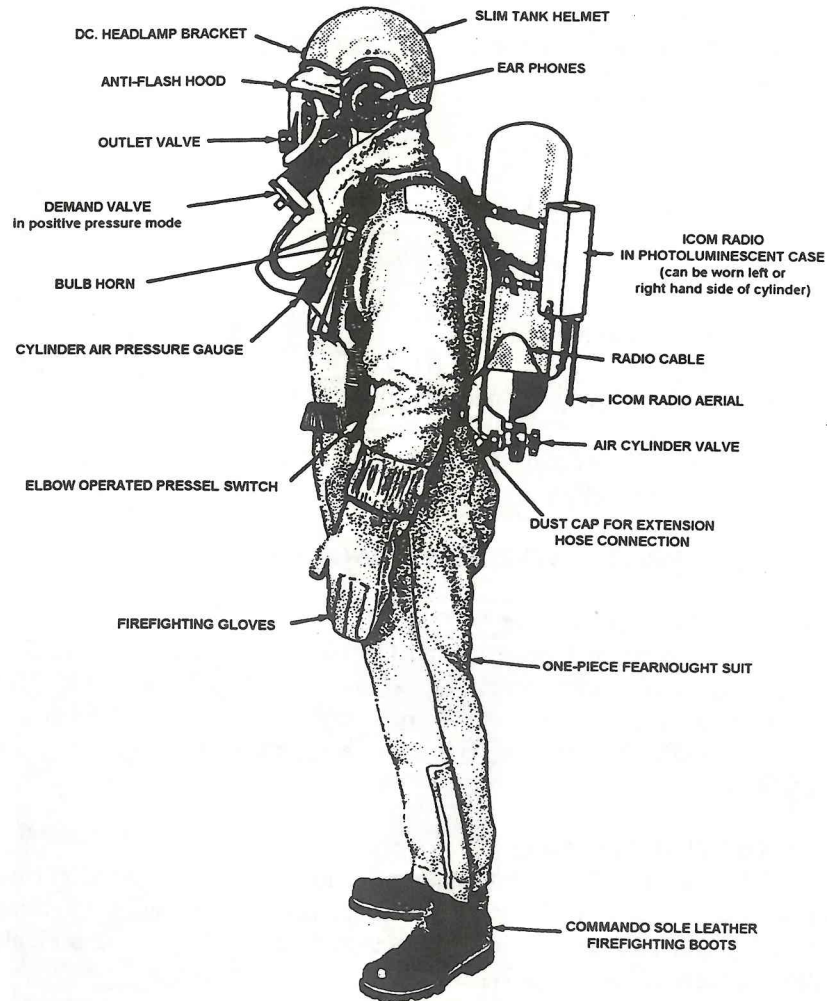
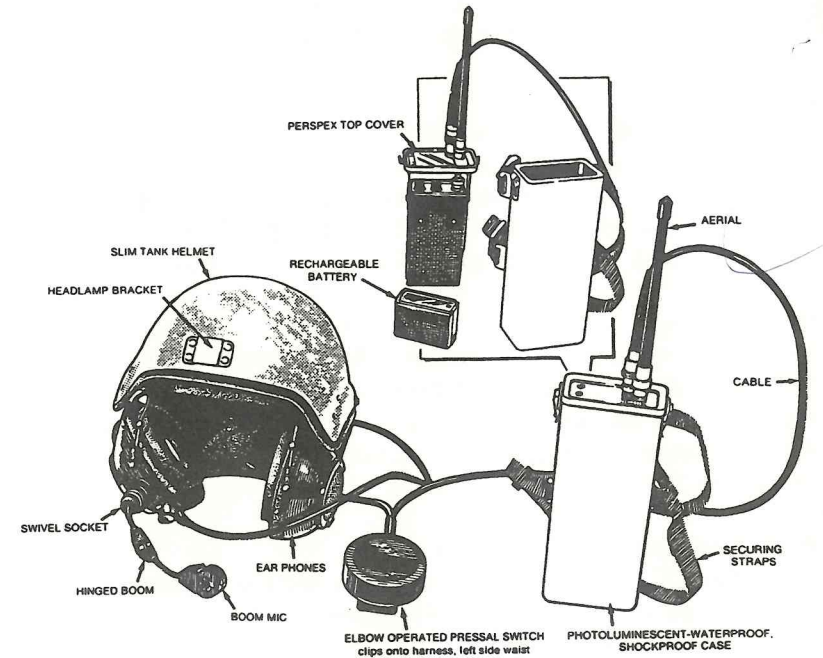

Fig 7-1. Full Firefighting Rig (Left View)
Fig 7-6. Slim Tank Helmet Kit
This consists of basic firefighting rig plus anti-flash hood and gloves, Fearnought suit and firefighters gloves, seamen's stockings, firefighting boots, BA and bulb horn, slim tank helmet (with caplamp) and portable radio transceiver. (See Figs 7-1 and 7-2.)
0704. Clothing (see Figs 7-1 and 7-2)
0705. Breathing Apparatus - General (see Figs 7-1 and 7-2)
- b. Slim tank helmets (STH) (see Fig 7-6) fitted with an integral dual sided ear shells, a boom microphone, attachment sockets, and a press-to-speak (pressel) switch with a push in connector to the portable transceiver. There is an attachment for a DC caplamp (see Figs 7-1, 7-2 and 7-6).
- a. A distress signal (bulb horn), an armband and BA control board are stowed with the BA in its locker. During firefighting operations the BA controller retains the armband from each set under his control and also operates the BA control board. **A maximum of 8 sets may be controlled by each controller.** The bulb horn, worn by each firefighter is clipped to the plastic D ring of the BA harness on the left hand side of the chest (see Fig 7-1).